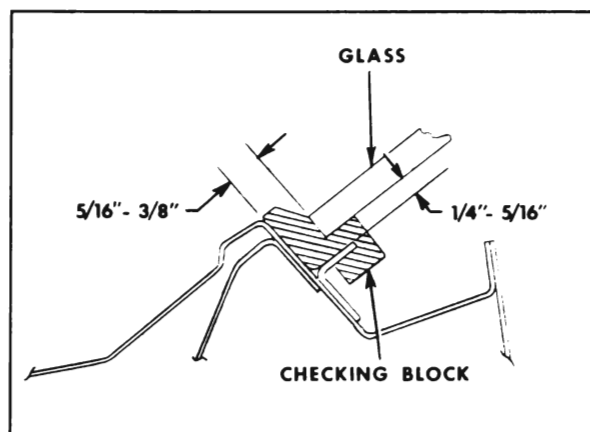

Figure 1-8—Windshield Opening Check
6. With windshield supported and centered in the body opening by checking blocks, check relationship of glass to body opening around entire perimeter of glass. Figure 1-8 shows a typical section taken through the glass channel and body opening. Check glass to body relationship as follows: